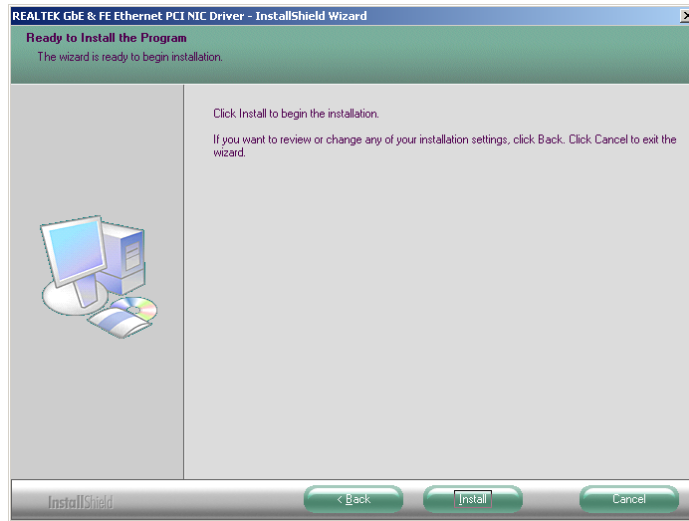

Figure 7-36: RTL8110SC Driver Ready Screen
Step 13: The InstallShield Wizard is ready to install the driver (Figure 7-36).